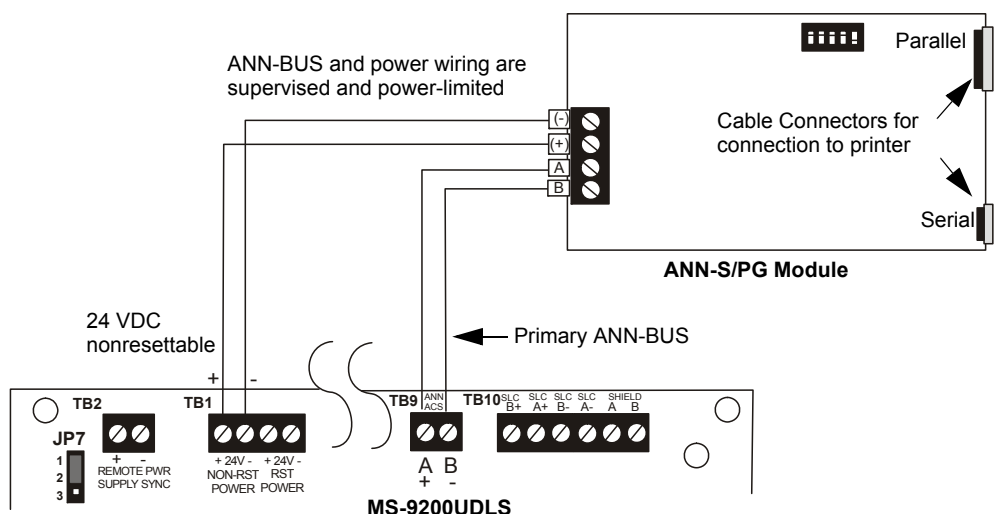

Figure 1.7 ANN-S/PG Connection to FACP
2. Connect the ANN-S/PG to the FACP as illustrated in Figure 1.7
5. Connect a printer to the ANN-S/PG Parallel or Serial connectors (refer to Figure 1.7). Only one printer can be connected.